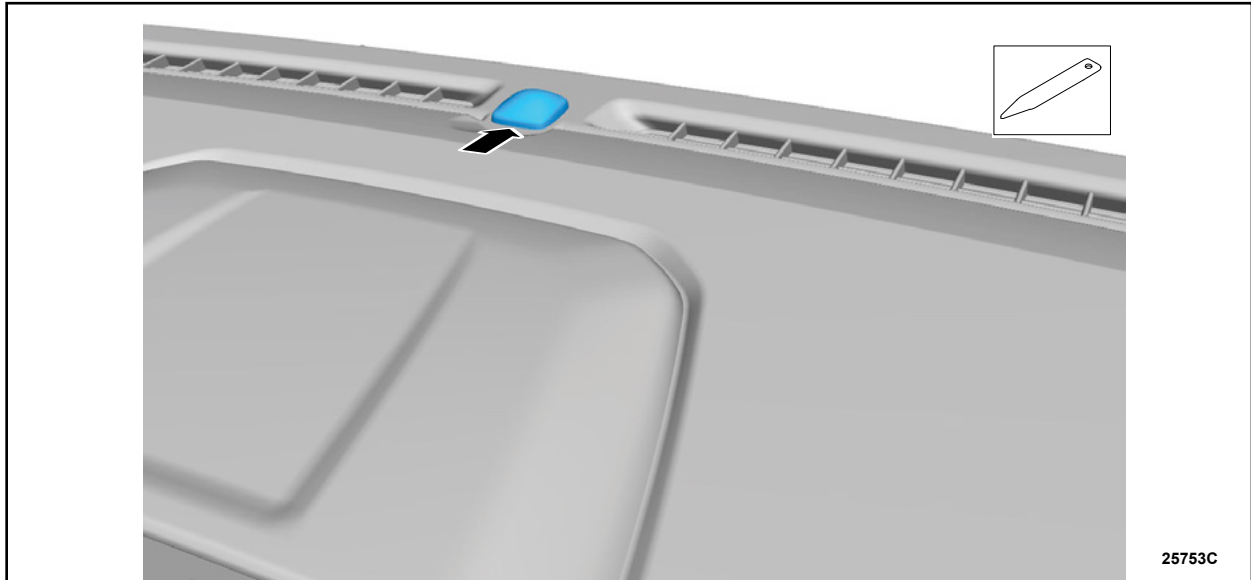

FIGURE 4
6. Transfer the sunload sensor from the original instrument panel upper section to the *new* instrument panel upper section. Release the tab and remove the sunload sensor. See Figure 4.